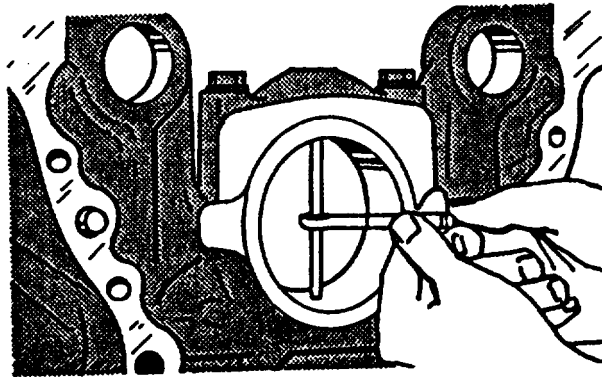

FIGURE 3-138. Measuring Main Bearing Bore Diameter
- (1) Measure main bearing bore diameter, refer to FIGURE 3-138. Main bearing bore diameter must be 3.325 to 3.326 inches (84.46 to 84.48 mm).
- (2) Measure engine block main thrust bearing width. With must be 1.3235 to 1.3275 inches (33.62 to 33.72 mm)
- (3) If bearing caps are damaged, or bore is not within specification, replace cylinder block.